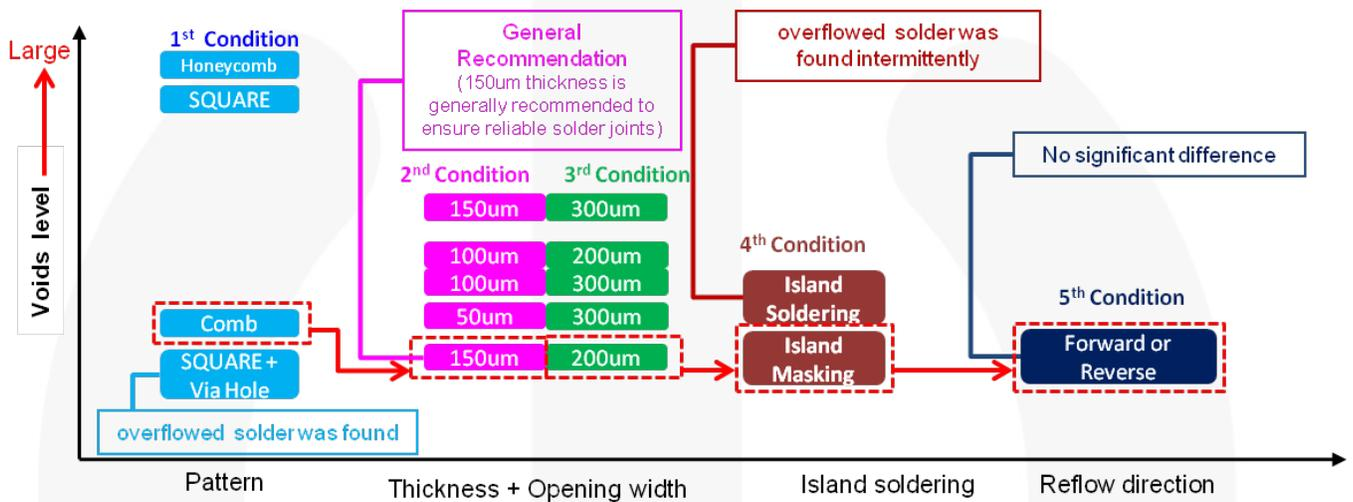

Figure 15. Chart for Selection of Recommended Conditions
Figure 15 shows the guidelines for selecting recommended conditions related to stencil design.
- Soldering condition is based on the recommended condition in Figure 15.